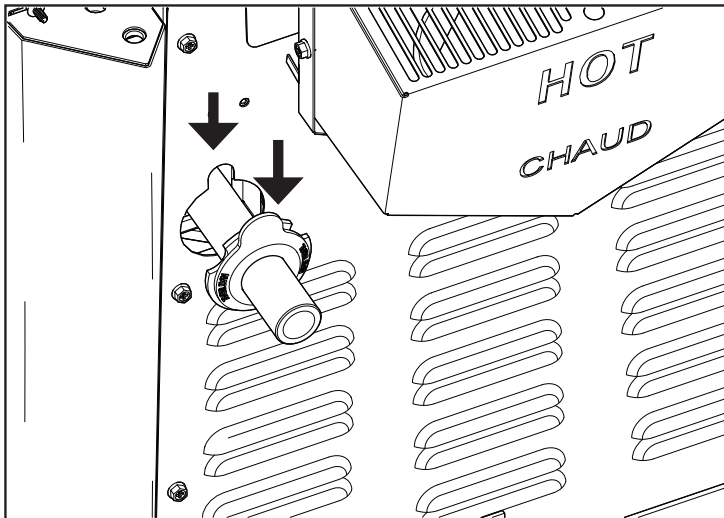

Figure 19. Line Up Tab with Gas Pressure Tap Port
15. Rotate the fuel line sealing grommet so the tab lines up with the gas pressure tap port (Figure 19).